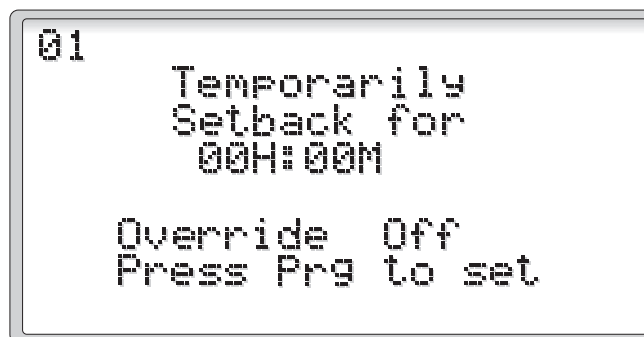

Figure 30
2.3.2.5 Temporary Setback (Figure 30)